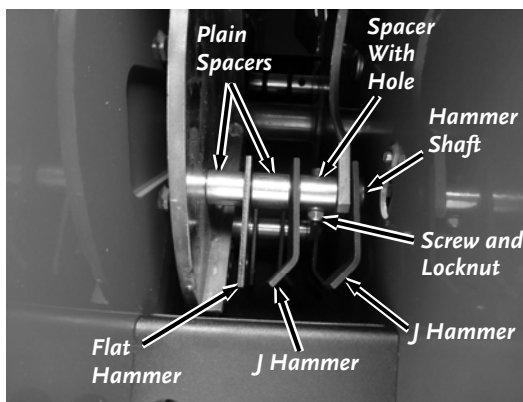
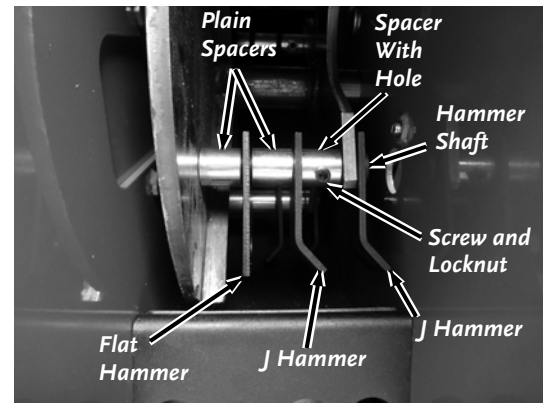

Figure 30
Figure 31
4. Align one of the Hammer Shafts with the Access Door opening (Figure 30). Carefully note the orientation of each Hammer on the Hammer Shaft you are working on.
7. Reinstall the parts, but with the orientation of the Hammers flipped to a clean cutting edge. If your Hammer Shaft assembly looked like **Figure 30** before then it should look like **Figure 31** after. Or vice versa.